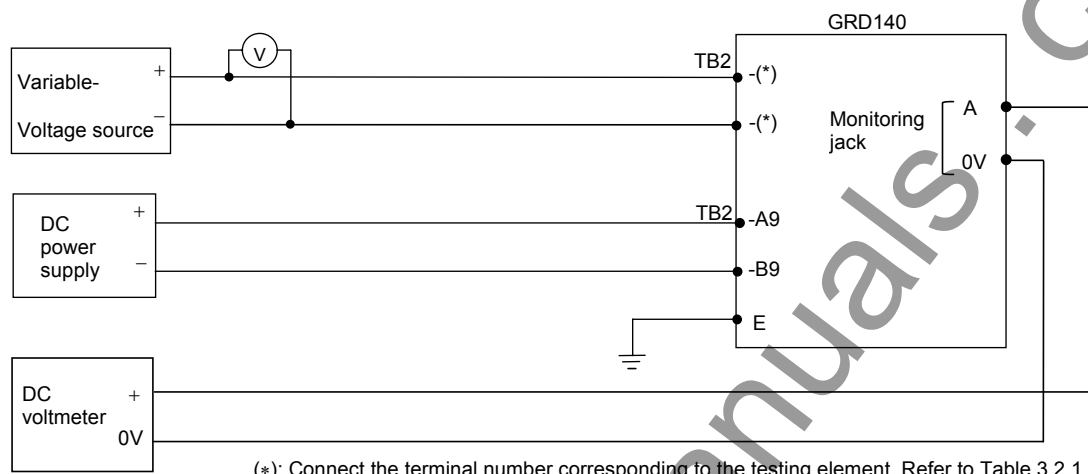

Figure 6.5.8 Operating Value Test Circuit
The testing circuit is shown in Figure 6.5.8.
- Apply a rated voltage as shown in Figure 6.5.8.
- Apply a rated voltage and frequency as shown Figure 6.5.8.